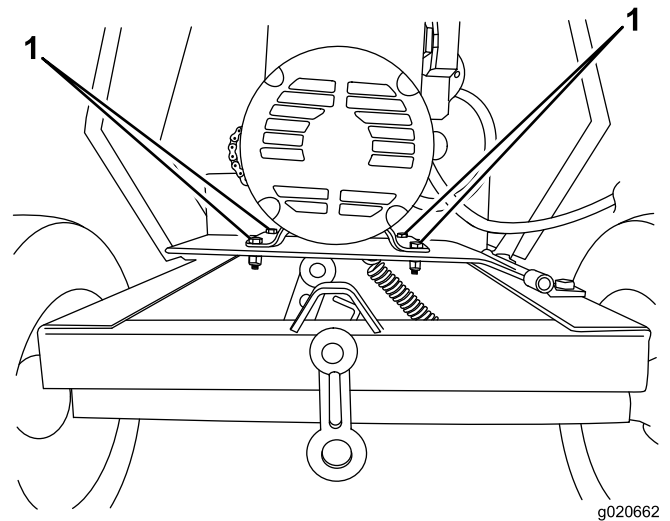

Figure 36
- B. Loosen the nuts and bolts that secure the motor to the motor deck (Figure 36).
- **Increase the air gap**—move the motor **away** from the idler pulley (Figure 36).
- **Decrease the air gap**—move the motor **toward** the idler pulley (Figure 36).